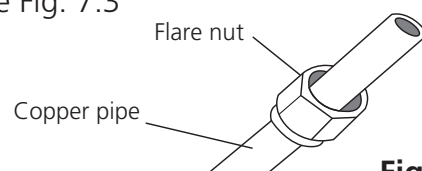

Fig. 7.3
3. Place flare nuts on both ends of pipe. Make sure they are placed in the correct orientation, because you can't install them on or change their direction after flaring. See Fig. 7.3